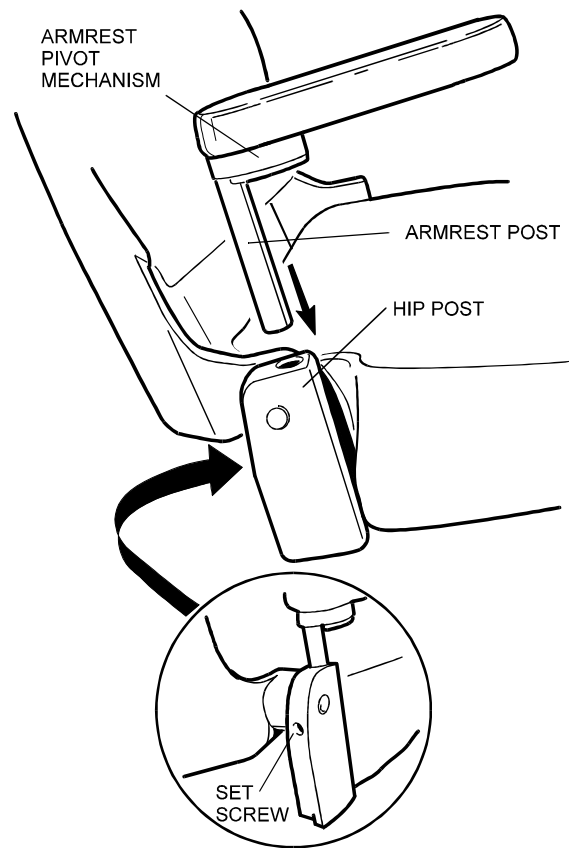

Figure 13
2. Insert the armrest post in the hip post, making sure that the right and left hand mounting positions are observed (See Figures 13 & 14).
3. Position the armrest parallel to the side of the chair and tighten the set screw (See Figure 13).